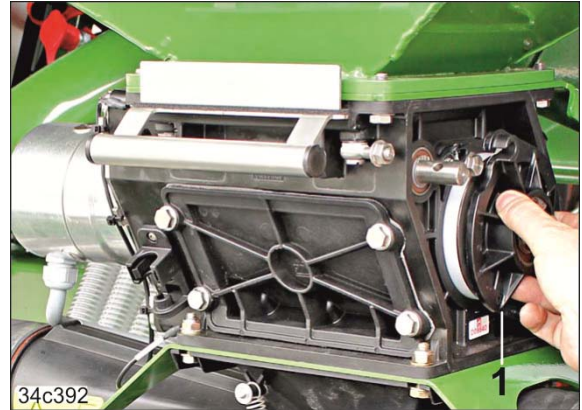

Fig. 224
- 7.2 Twist and remove the bearing cover (Fig. 224/1).